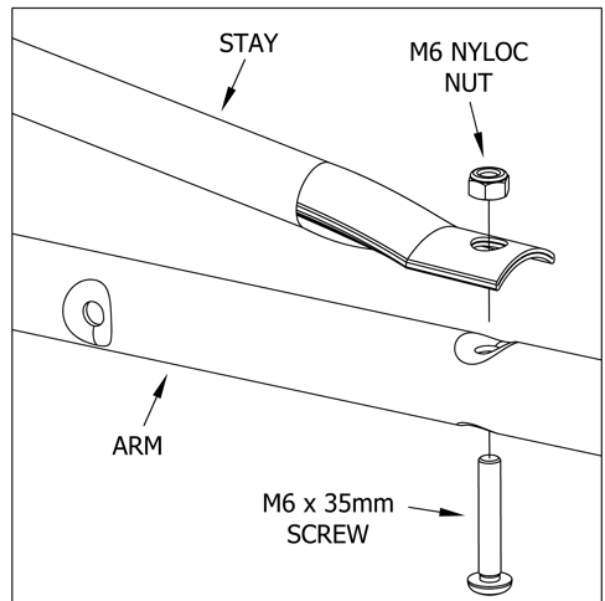

Fig 5. Fit Stay to arm.
2. Fit arm into the circular recess in the cross and then connect to the stay with M6 x 35mm a pan head machine screw and nyloc nut. Fit the bolt from the underside. (Figs 5 and 6).